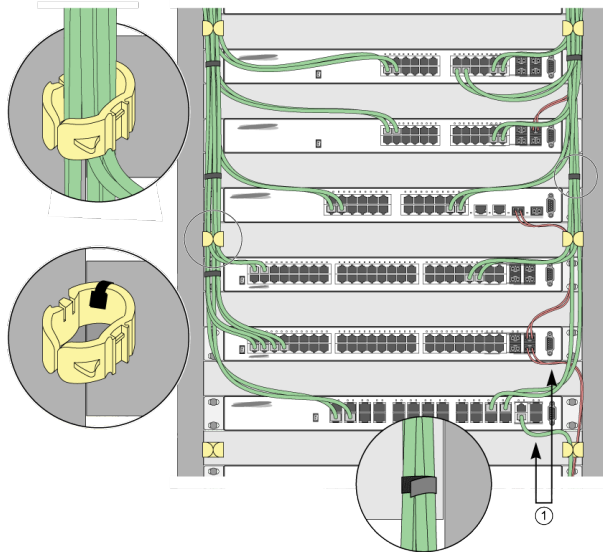

Figure 13: Properly Installed and Bundled Cable
- Provide enough slack, approximately 5 to 7.5 cm (2 to 3 in), to provide proper strain relief as shown in Figure 13 on page 54.
- When installing a patch panel using twisted pair wiring, untwist no more than 2.5 cm (1 in) of the cable to avoid radio frequency (RF) interference.